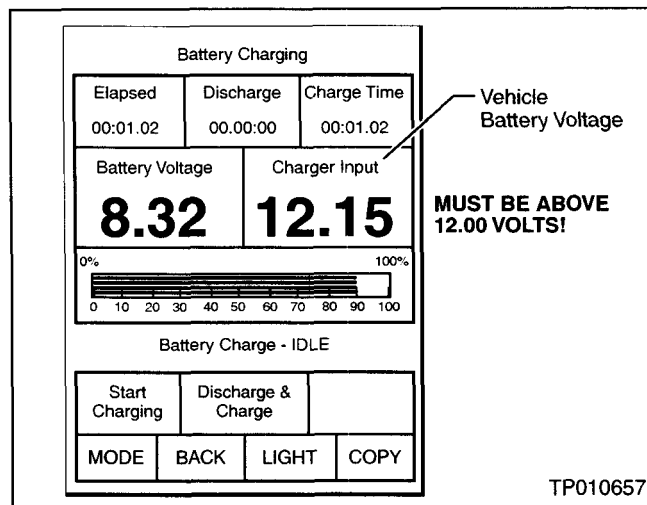

Figure 5
29. After about one minute has passed, check the vehicle's battery voltage reading on the CONSULT-II screen (see Figure 5).